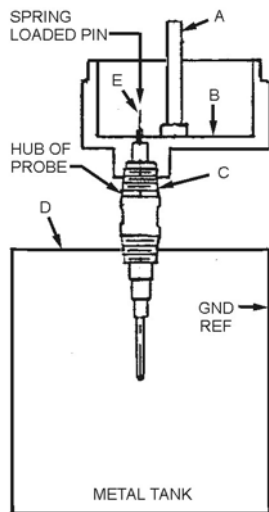
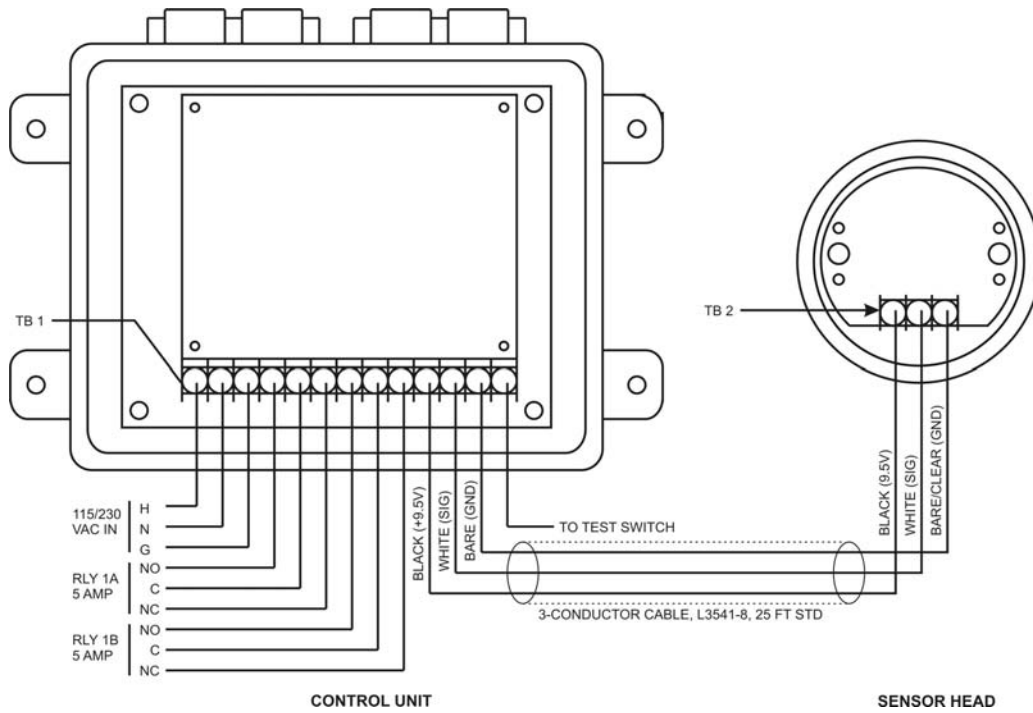
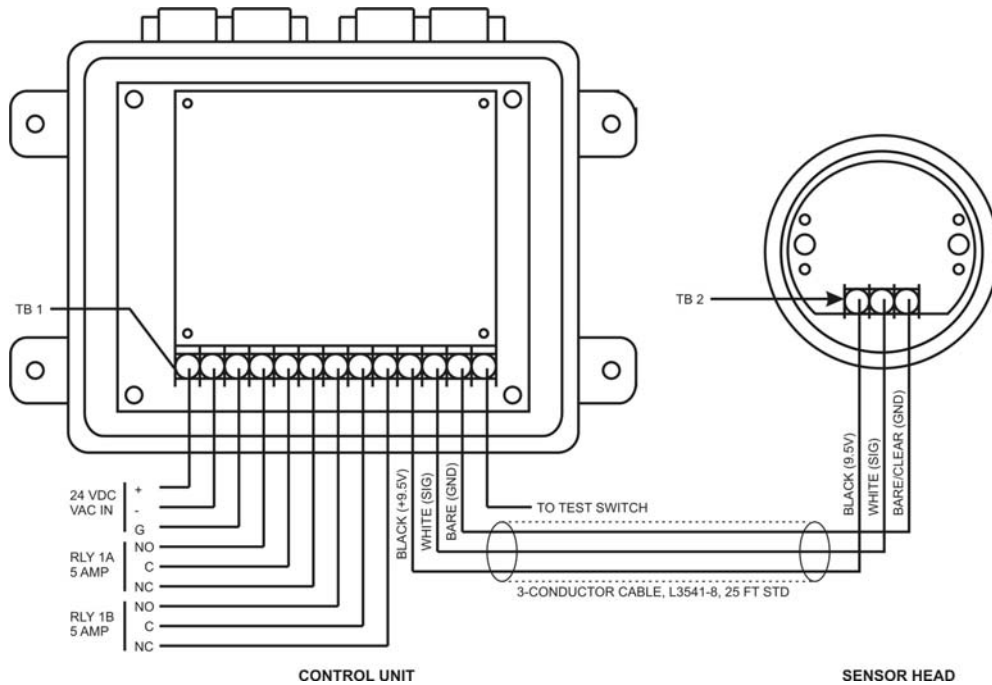

Figure 3-4. Ground Continuity Test
Figure 3-5. Electrical Connections – 115Vac & 230Vac Units
Figure 3-6. Electrical Connections – 24Vdc Units
The ground return rod must be electrically connected to the L3541 Sensor Head's housing or to the ground position of the terminal block (TB2) with 18 AWG or heavier wire. See Figures 3-5 and 3-6. See Figure 3-4 for ground continuity testing.
Do not use any type of thread lubricant on the NPT probe mounting threads or the NPT threads that mount the electronic housing. Application of thread lubricant may cause faulty or improper ground connection. If required, Teflon tape may be used as a thread seal for either threaded connection. If Teflon tape thread sealant is used, the installer should make an electrical continuity check with a hand held ohmmeter. Continuity should exist between the storage vessel and the equipment electronic housing. Less than 1-ohm resistance should exist between these two points. See Figure 3-4.
For 115Vac and 230Vac powered units, connect the ac power line wires: Hot (H), Neutral (N), and Ground (G) respectively, to the left side of terminal strip (TB1) as shown in Figure 3-5.
If the unit requires 24Vdc for power, the terminal strip TB1 is labeled as plus (+), minus (-) and ground (G). Connect 24Vdc power accordingly (See Figure 3-6).
Connect the normally open (NO), normally closed (NC) and common (C), relay wires to the terminal strip (TB1) as shown in Figure 3-5 and Figure 3-6, and as required by the specific application circuit.
The relay contact configuration, shown in Figures 3-4 and 3-5, and labeled on the instrument overlay panel surface, is identified as such with the relay in the de-energized (shelf) state. Fail-safe operation requires relay to be normally in the energized (non-shelf) state. Upon alarm, configured as either HIGH or LOW, the relay then becomes de-energized (shelf state), as per Figure 3-5, 3-6, and TB1 labeling.
Connect the Control Unit to Sensor Head cable (supplied with the unit) to the terminal block TB1 as shown in Figure 3-5 or 3-6:
A remote relay test switch may be wired if desired. Depressing the switch will produce the same action as depressing the local TEST push-button (i.e. de-energize relay). Refer to Figure 3-5 or 3-6 below. Connect one end of a two-wire cable to TEST and GND. Connect the other end of the same cable to the terminals of a SPST, normally open, push-button switch (or equal).
Connect the three cable wires, black, white, and bare/clear respectively, to the terminal block (TB2) as shown in Figures 3-4 and 3-5. These connections supply power to the Sensor Head from the Control Unit, and return the measurement signal from the Sensor Head to the Control Unit.
For all applications, it is the customer's responsibility to install the required conduit, seals, wiring, etc., which meet national, as well as applicable local and plant safety codes. See Figure 3-6 below.